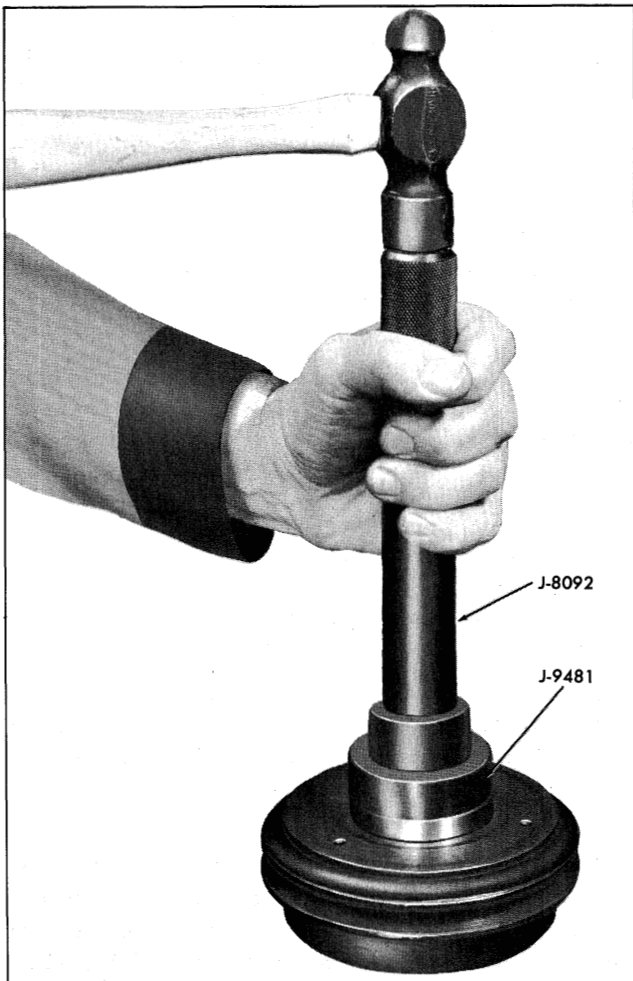

Fig. 4-21 Installing Pulley Bearing
1. When replacing a new ball bearing assembly into the pulley, use J-9481 pulley bearing installer (Fig. 4-21).